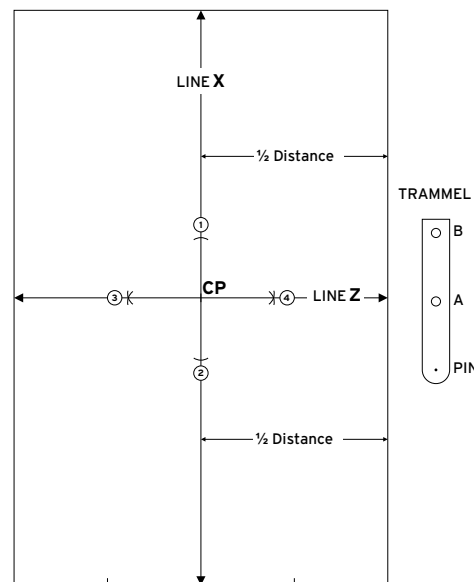

Figure 2
5.6.2 Setting out and installation for straight tiling (Refer to fig. 2)